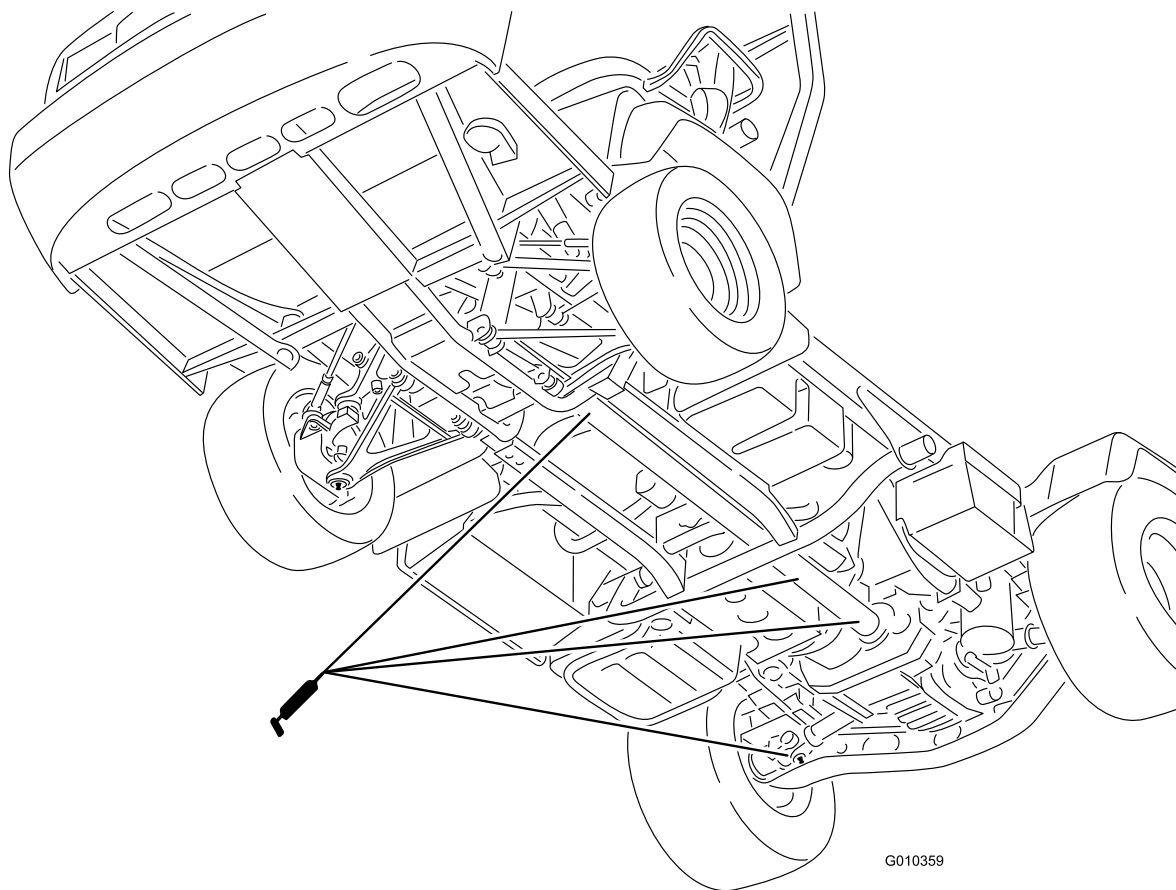

Figure 32
- U-joint (18); refer to Figure 32
- 4-wheel drive shaft (3); refer to Figure 32